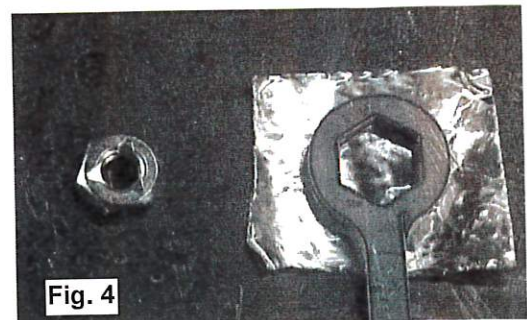

Fig. 4
- 4) Place a square piece of tape (enough to wrap around the straight wrench) onto the straight wrench. Take a 1/4-20 nut and place it in the straight wrench. It is very important to have the triangle indentation on the nut facing the tape. Wrap the rest of the tape around the nut securing it into place (see figure 4, 5 & 6).